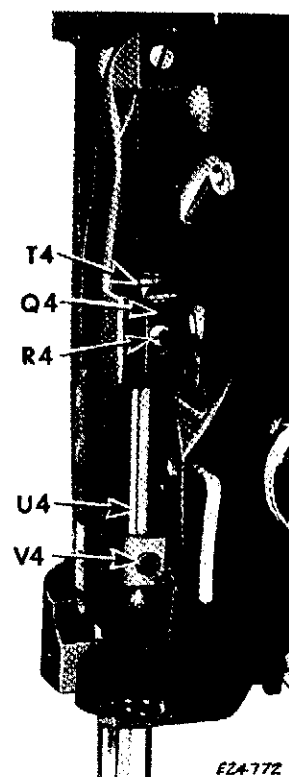

Fig. 66. Upper Timing Mark on Needle Bar
To adjust the height of the needle bar, loosen set screw **V4**, **Fig. 66** and raise or lower needle bar **U4**, as required. Then securely tighten screw **V4**.
Check the setting of the needle bar height indicator **Q4**, **Fig. 66** and reset, if necessary, as instructed on **page 42**.
5. Loosen set screw **V4**, **Fig. 66**.
9. Then loosen screw **R4**, **Fig. 66** to reset needle bar height indicator. Move indicator **Q4** up or down until it corresponds with upper timing mark **T4**. Securely tighten screw **R4**.